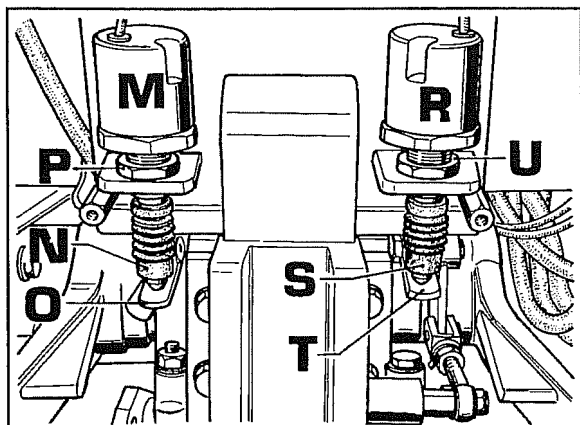
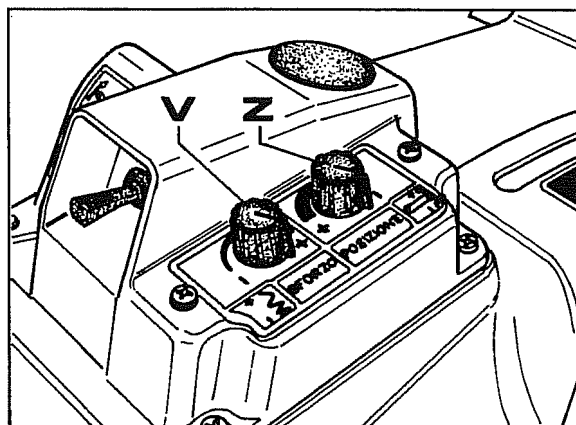

Fig. 54
Fig. 55
1. Regulating the controlled position sensor **M** (Fig.54).
2. Regulating controlled draught sensor **R** (Fig.54).
- b. Turn both rheostats **V-Z** (Fig.55) all the way clockwise.
- d. Turn rheostat **V** towards the negative sign (-). If the lift does not raise, this means it is regulated correctly. If, on the other hand, the lift raises the implement, a further regulation will have to be made. Follow these steps to regulate the controlled draught sensor **R** Fig.54:
- e. To check the controlled position sensor **M** Fig.54:
e2. Check to make sure rheostat **Z** (Fig.55) is turned to the negative sign (-). Push sensor control lever **O** (Fig.54) upwards by hand. If the lift lowers more, the previous regulation should be fine tuned as follows: